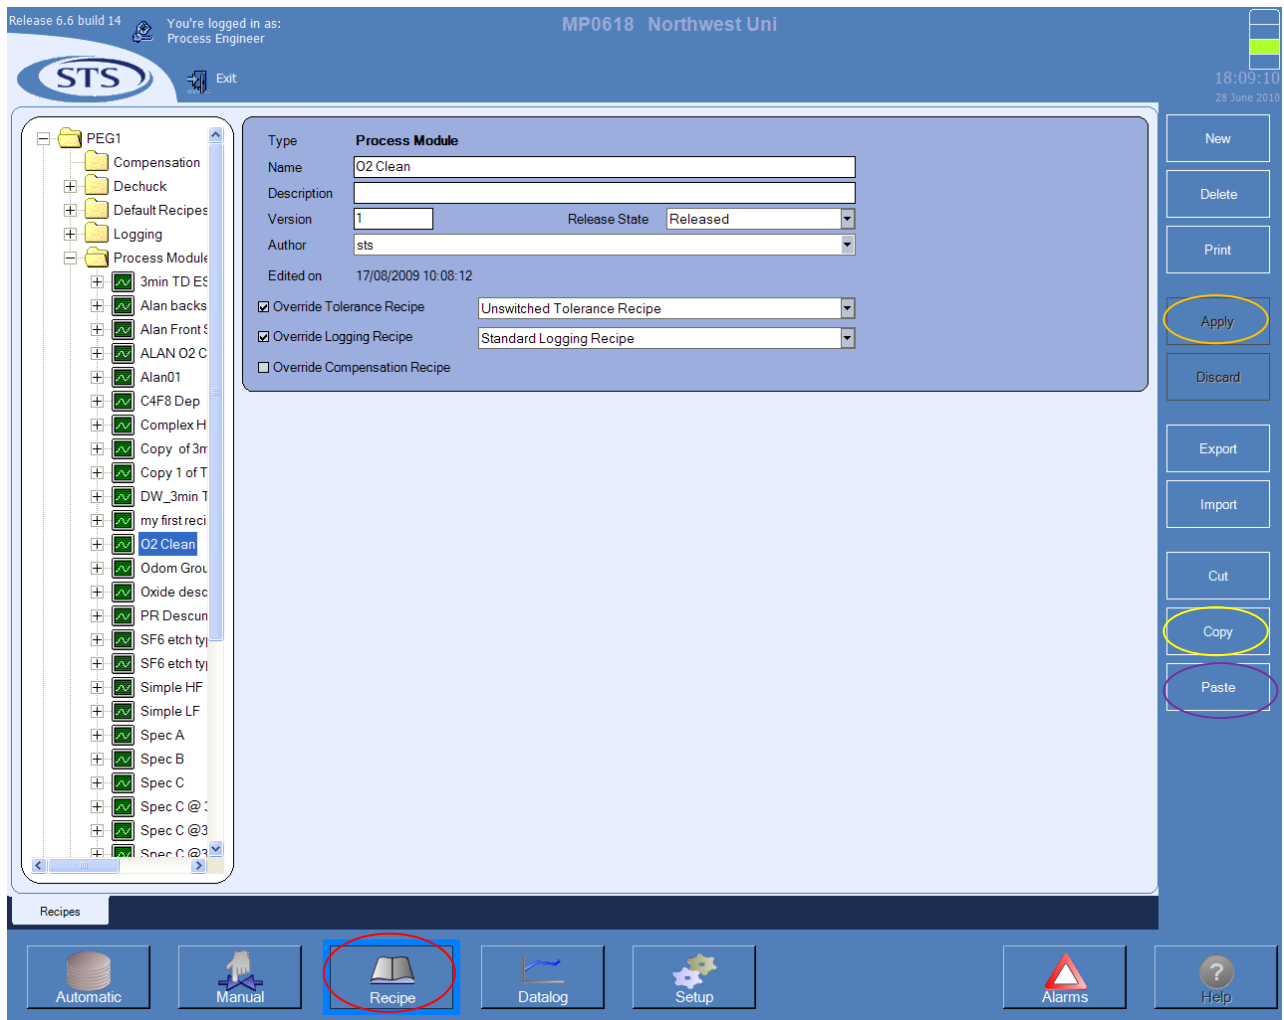

Figure 5: Recipe Editing I.
- Go to the screen shown in Figure 5 by clicking on Recipe button (circled in red).